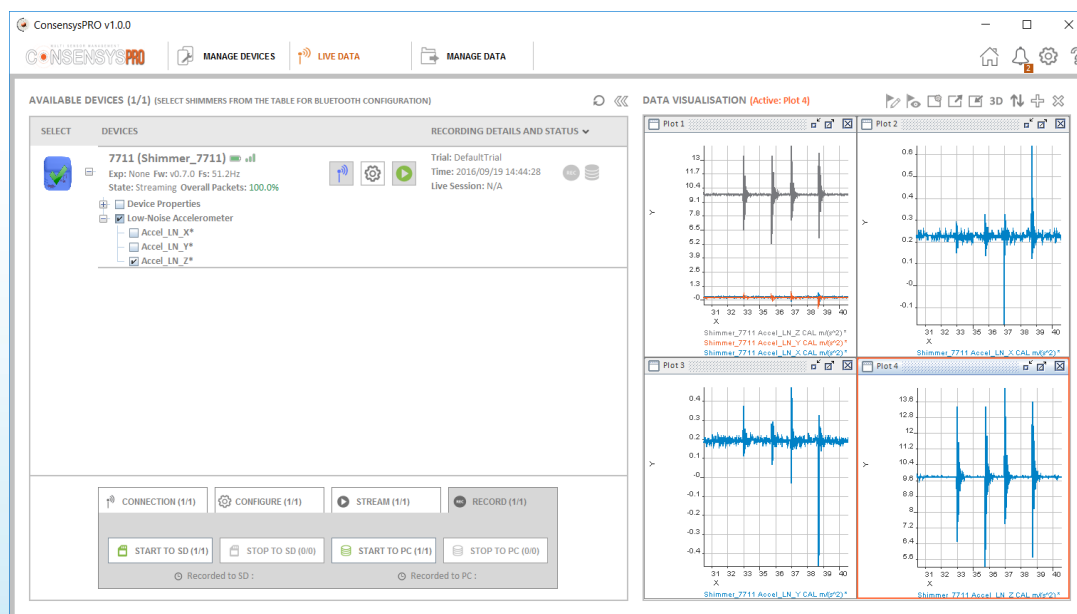

Figure 4-1 Consensys Software Application
*Consensys* (see Figure 4-1) allows users to display and record data received from Shimmer devices streaming over Bluetooth (using LogAndStream firmware v0.8.0 or later). See section 4.1.1 for *Consensys* overview. Currently, *Consensys* is only supported on the Windows platform.